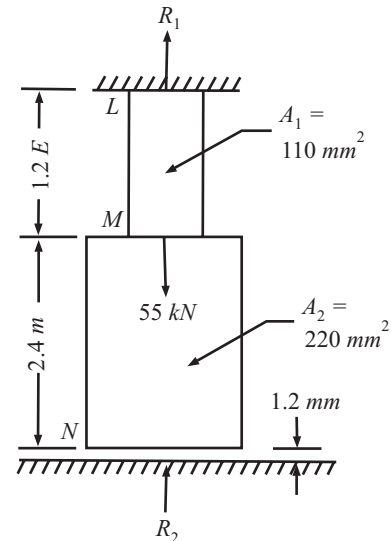

Fig. 14.31
Q. 44: For the bar shown in Fig. 14.31, calculate the reaction produced by the lower support on the bar. Take $E = 200 \text{ GN/m}^2$. Find also the stresses in the bars.